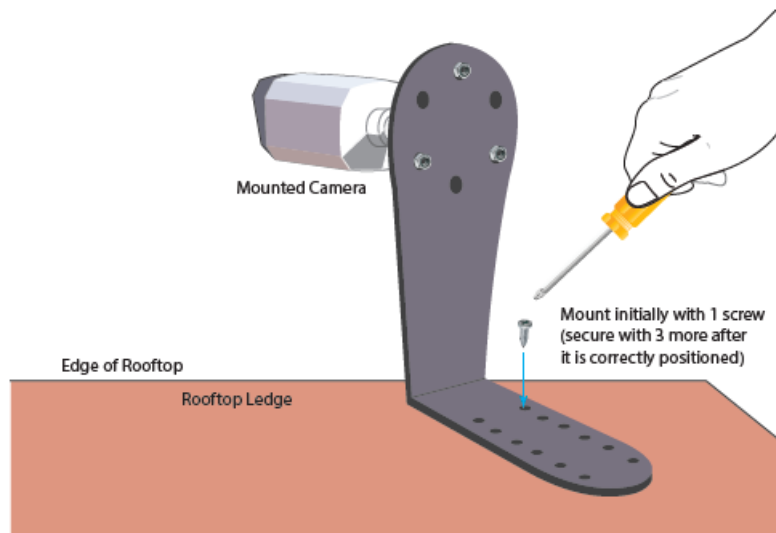

Fig. 2.2
- Mount the bracket to the rooftop ledge, using just one screw, to begin with. See Fig 2.2.